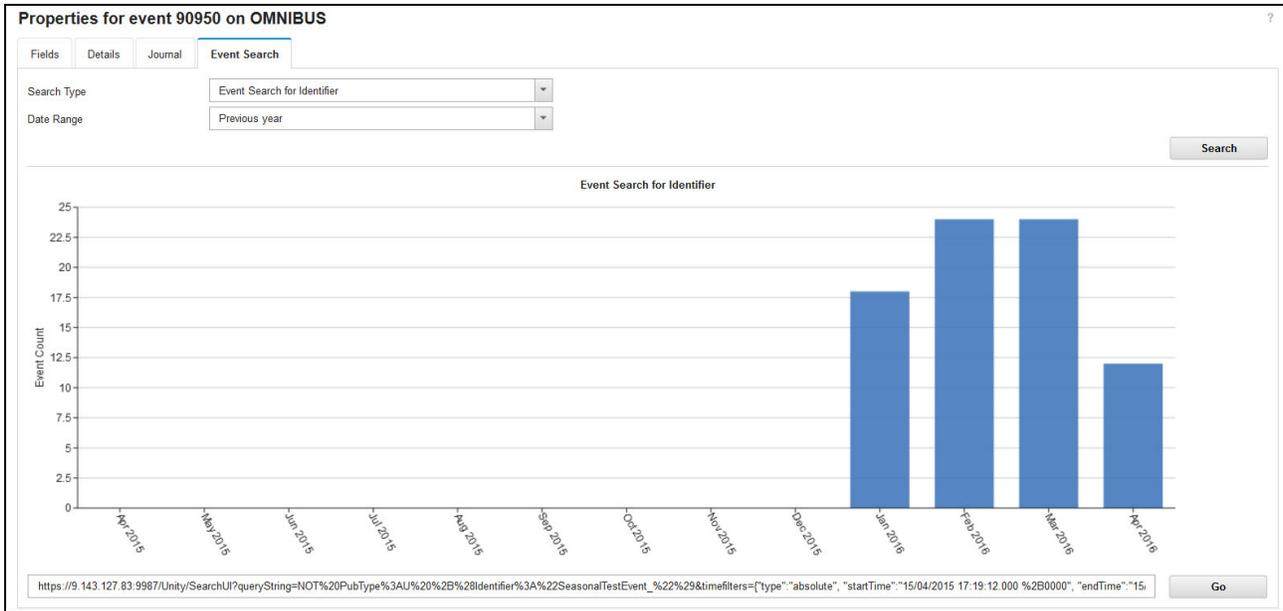

Figure 8-7 Previous year view
- Current analysis shows that there is a pattern to the events, which occurs on a Sunday only. Joe wants to check whether some of these events were present last year. He chooses the **Date range: Previous year** option and clicks **Search**. The result is shown in Figure 8-7 on page 150.